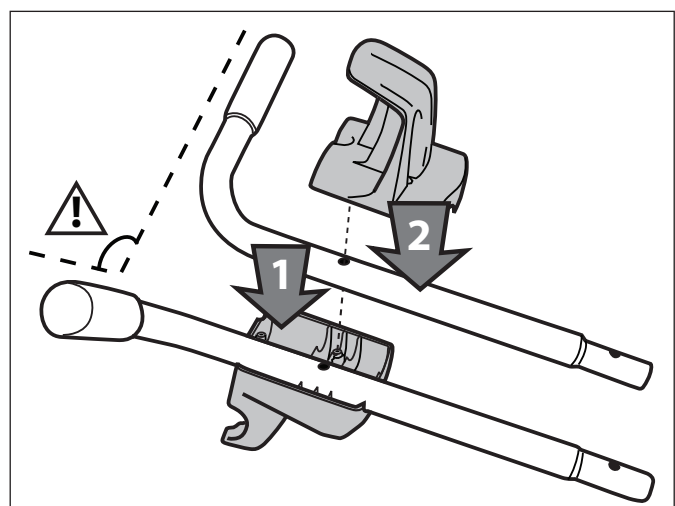

Figure 2. Install Hooks on the Upper Handles
1. Position the power cable hook and power supply hook on the upper tubes as shown in Figure 2. Make sure the upper tubes (handles) are in the proper orientation.